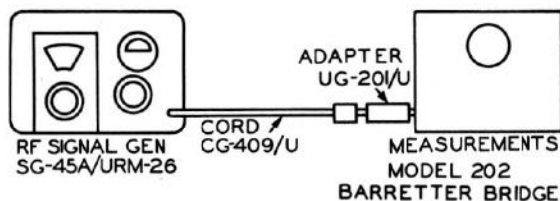

Figure 7-7. RF Signal Generator SG-45A/URM-26, Connections for Measuring Output Voltage
d. BARRETTTER BRIDGE METHOD: Connect signal generator to Measurements Corporation Model 202-B Barretter Bridge as shown in figure 7-7.
(1) Set dial of Model 202-B at 50K.
(2) Set MICROVOLTS dial of RF Signal Generator SG-45A/URM-26 at 50K, AMPLITUDE MODULATION switch at OFF and METER switch at OUTPUT.
(8) Replace and tighten one-inch nut.
(9) Replace roller O-113, and spring O-114, and attach the two screws to secure the spring.
(10) Check frequency range of repaired sub-assembly (see paragraphs 7-6 and 7-12).
(11) Check output voltage at .05 volt level using the set-up shown in figure 7-7. If, with output meter set to red line, the error in output voltage exceeds allowable tolerance, proceed as follows: